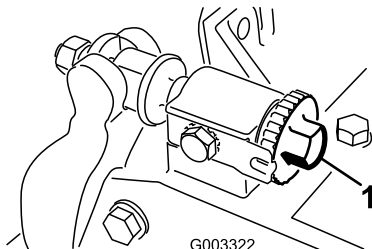

Figure 25
1. Loosen the reel-to-bedknife contact by turning the bedknife-adjusting knobs (Figure 25) counterclockwise until no contact exists.